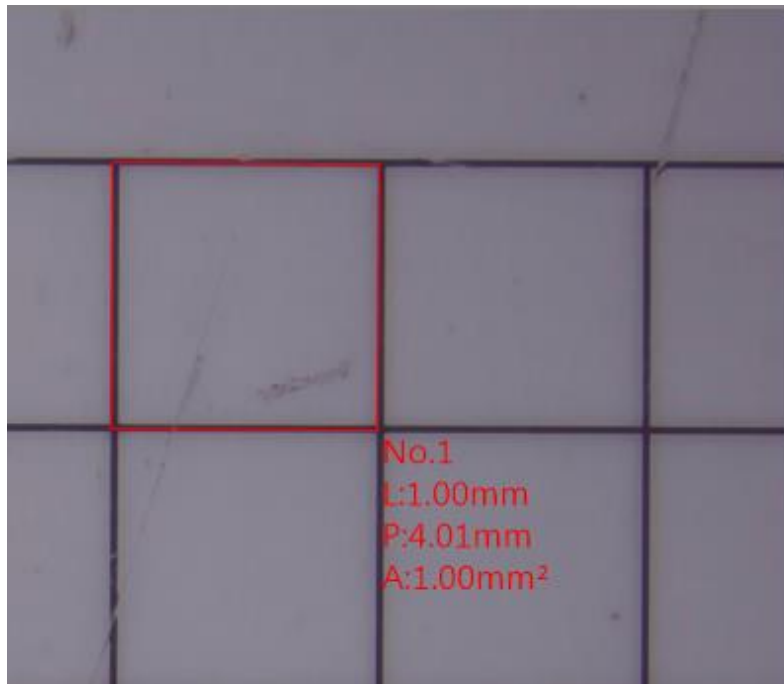

Fig. 5-7 Square measurement
- (7) Square : The object is regular quadrilateral that can apply  tool. Draw from any corner toward Diagonal direction as a square. In the Fig. 5-7, square circumference is $P=4.01\text{mm}$, one side is $L=1.00\text{mm}$ and area is $A=1.00\text{mm}^2$.
- (9) 3 Point Circle : When the object is Circle or just a Arc that can apply  tool. Point 1st point on the edge of object, then point 2nd point , again drag toward 3rd point, that automatically draw a circle. In the Fig. 5-7, Radius is $R=0.50\text{mm}$, Diameter is $D=1.00\text{mm}$, Perimeter is $P=3.14\text{mm}$ and Area is $A=0.79\text{mm}^2$.